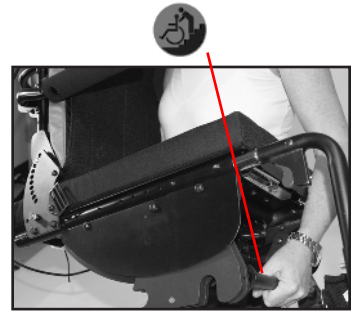

Fig. 13
3. With the other hand, hold the lock bar located on the bottom of the seat. Fig. 13